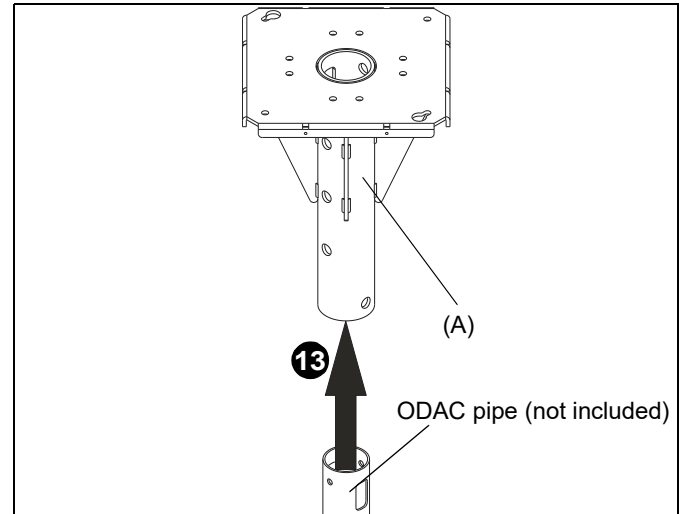

Figure 7
13. Insert pipe (not included) in to attach assembly (A) until holes align for installation. (See Figure 7)